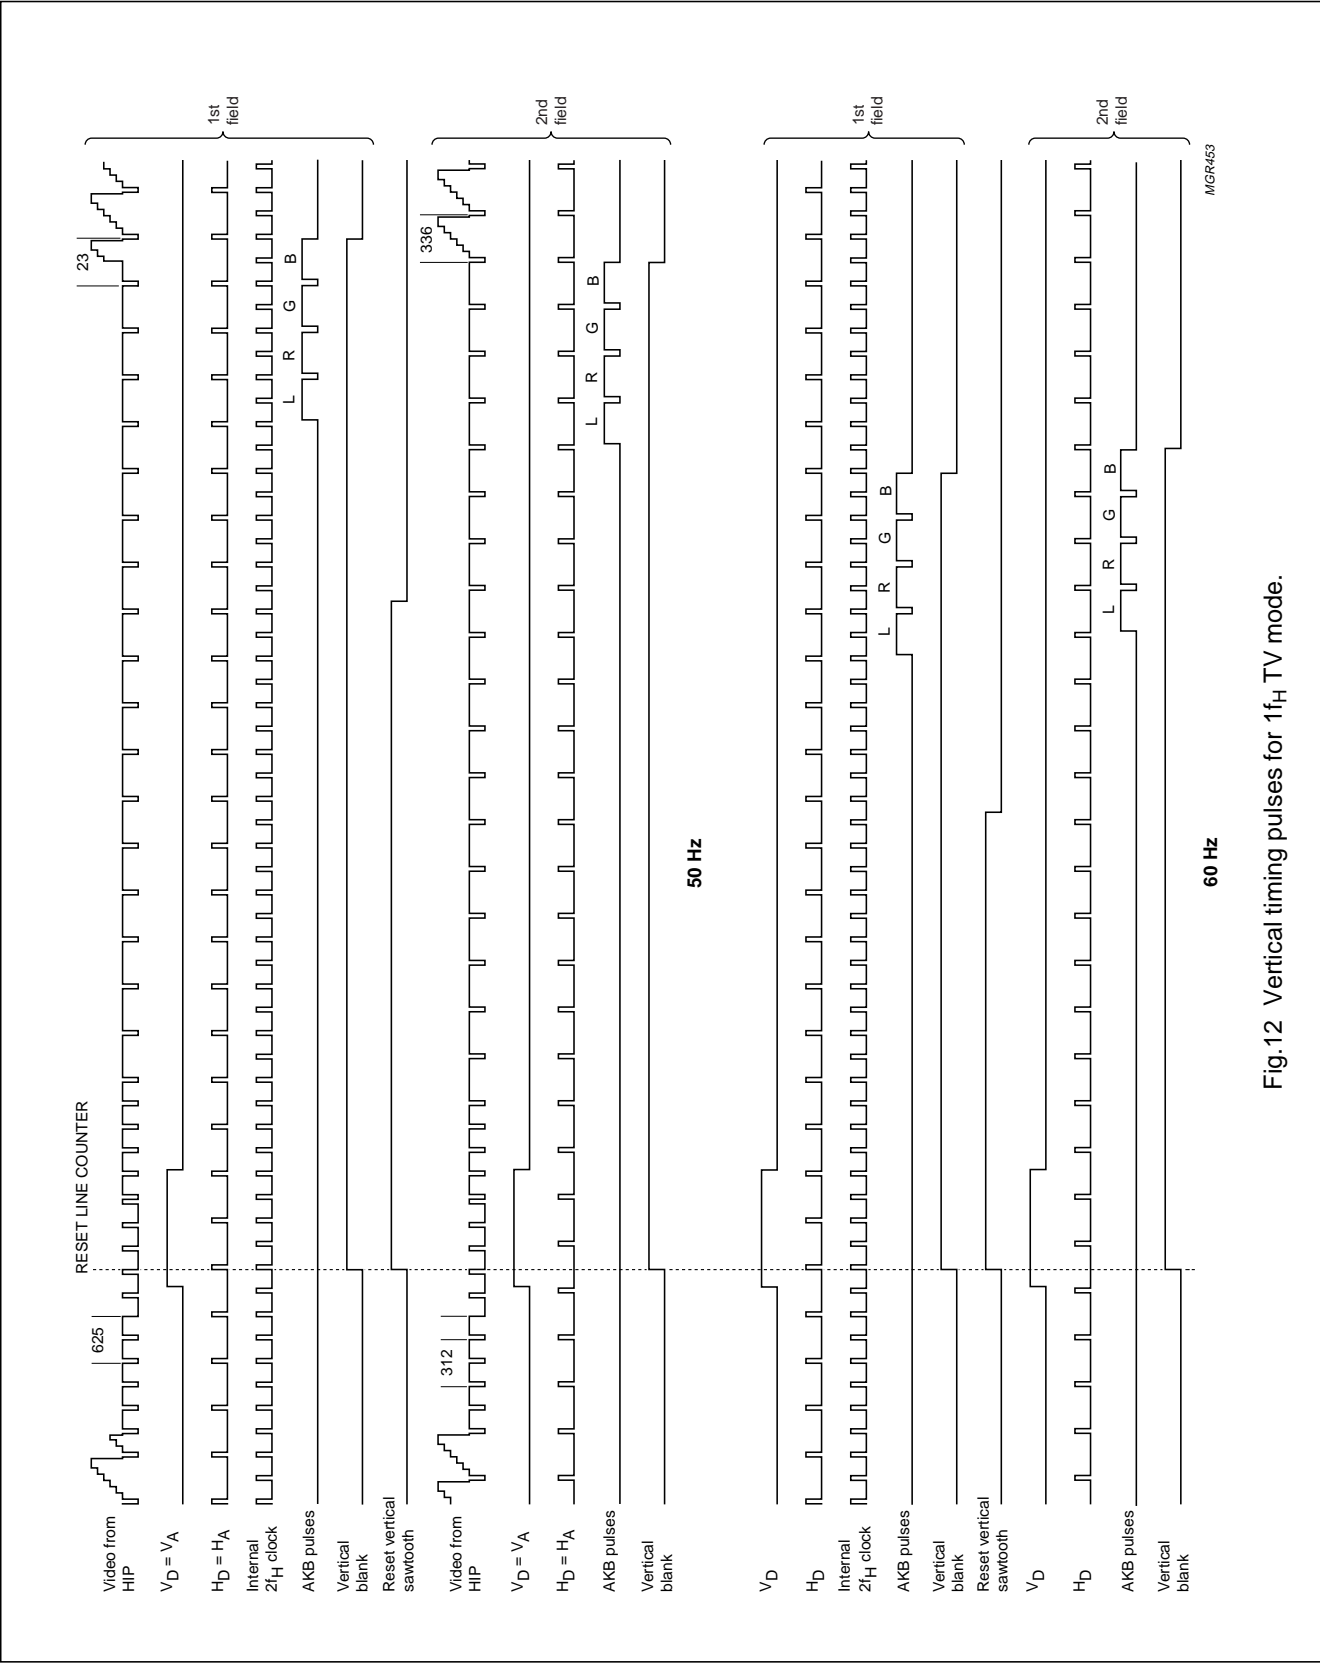

Fig.12 Vertical timing pulses for 1fH TV mode.
38. The vertical guard pulse from the vertical output stage should fall within the vertical blanking period (see Figs 12 and 13) and should have a width of at least one line period. For the detection of a missing pulse, a guard current value of 1 mA during normal operation is sufficient. If the RGB outputs must also be blanked if the guard pulse lasts longer than the vertical blanking period, the guard current must have a value between 2.6 mA and 3.5 mA.
46. With the vertical wait function, the start of the vertical scan can be delayed with respect to the incoming vertical sync pulse. The operation is different for the various scan modes, see Table 54 and Figs 12 and 13. The minimum value for the vertical wait is 8 line periods. If the setting is lower than 8, the wait period will remain 8 line periods.
1f H ; TV mode	fixed; see Fig.12